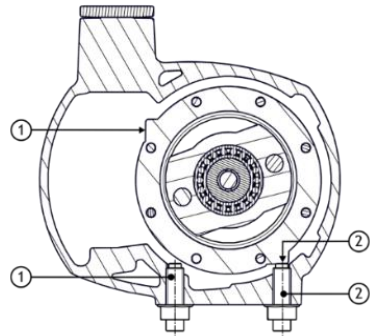

Figure 3 Mechanical stops
1. Loosen the nut corresponding to the clockwise mechanical stop (2 in **Figure 3**).
6. Loosen the nut corresponding to the counterclockwise mechanical stop (1 in **Figure 3**).
1. Loosen the nut corresponding to the counterclockwise mechanical stop (2 in **Figure 3**).
6. Loosen the nut corresponding to the clockwise mechanical stop (1 in **Figure 3**).